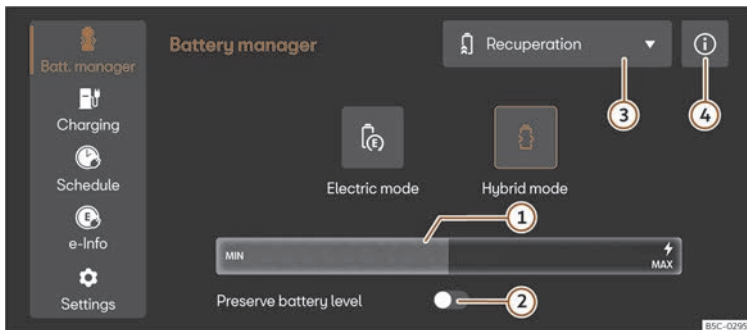

Fig. 116 In the infotainment system: Battery manager menu
- Select **Electric Mode** or **Hybrid Mode** in the infotainment system. Further information about the operating mode can be found in >>> **Fig. 116** ④.
Key to >>> **Fig. 116:**